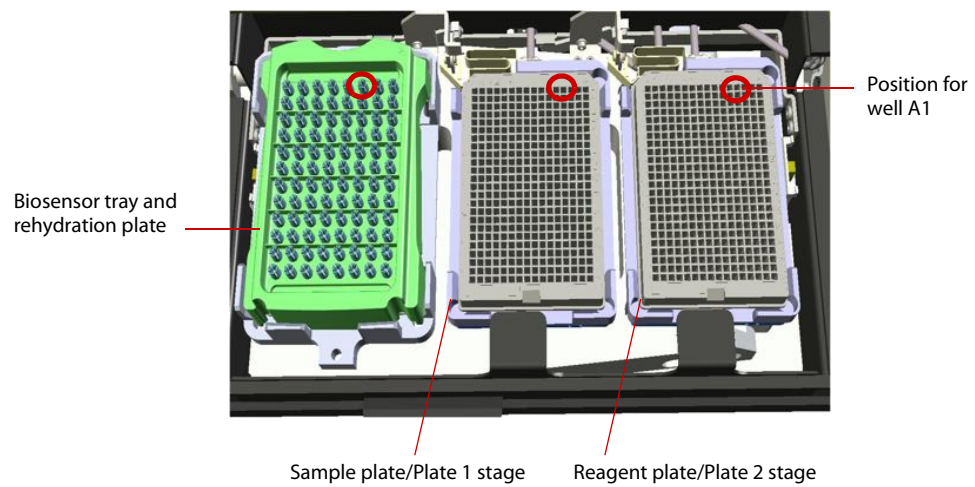

Figure 11-3: Octet RED384 and QK384 Stage Platform
1. Present the sample plate stage (Figure 11-3).